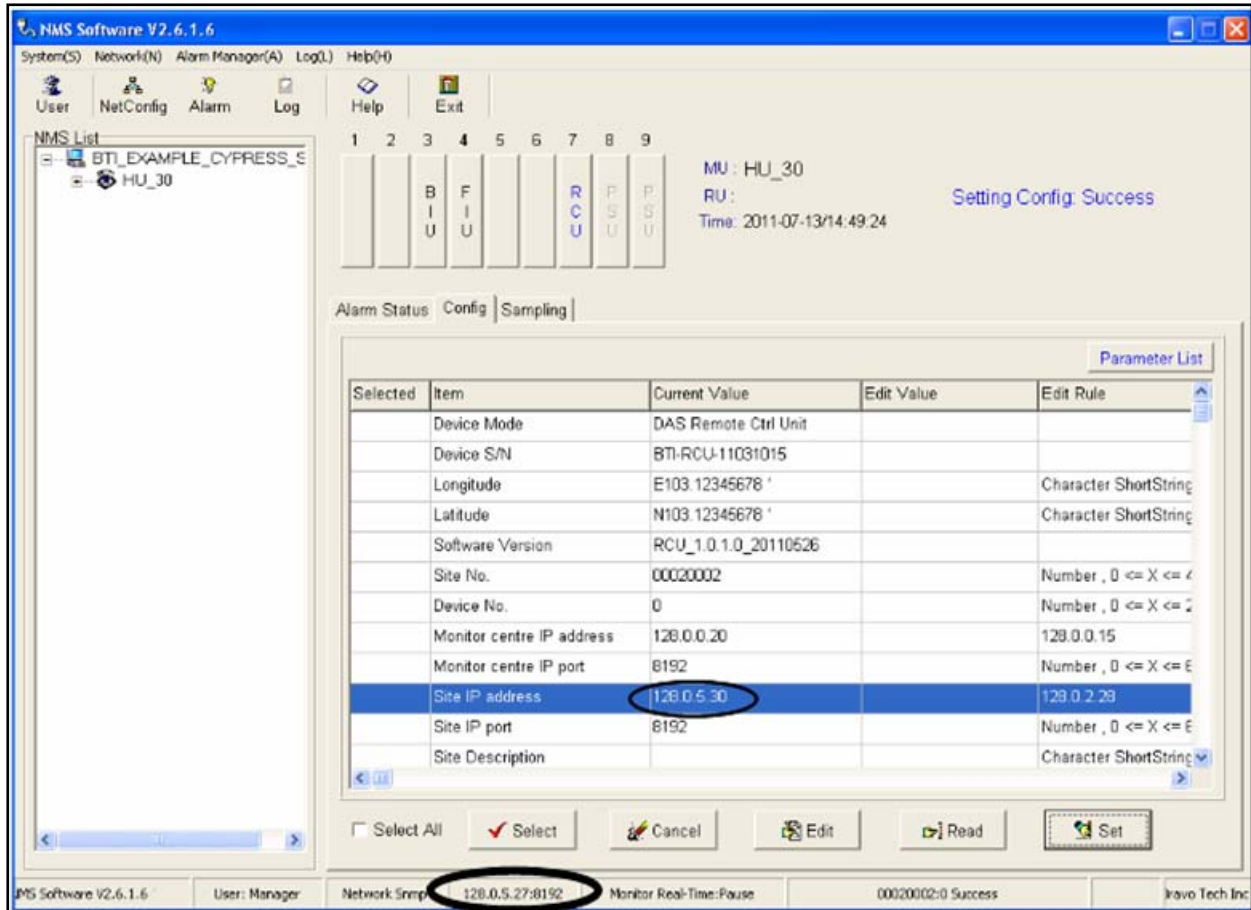

Figure 5-14. IP Address Update Setting
9. Click *Set*, **Figure 5-14**.